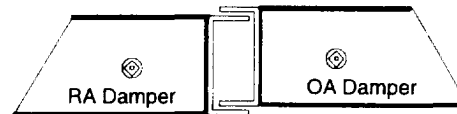

Figure 13: Initial Damper Frame Alignment
- To aid the installation of the damper assembly, slide the OA damper to the left until the frame overlaps the RA damper frame as shown in Figure 13.